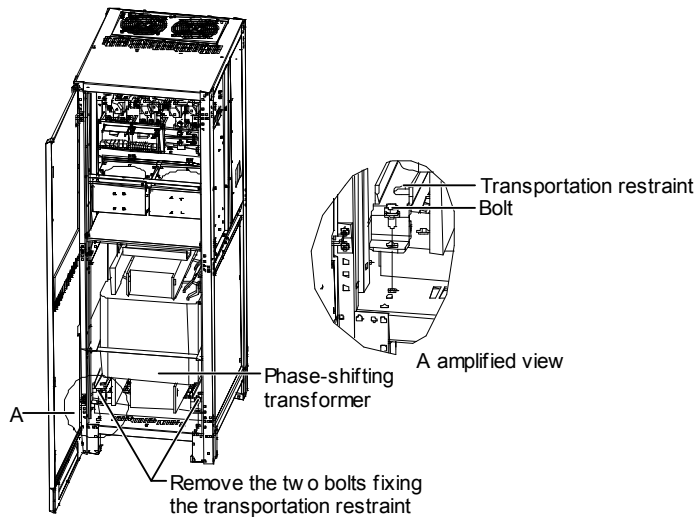

Figure 10 Removing the two transportation restraints in the front
1. Open the front door and remove the back panel of the side cabinet to reveal the phase-shifting transformer, as shown in Figure 10. Retain the screws.
2. Remove the two transportation restraints in the front of the phase-shifting transformer, as shown in Figure 10.